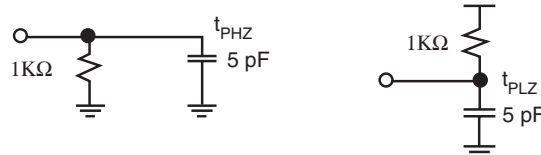

Figure 2: Loads used for t_{PXZ}
a. The loads presented in **Figure 2** are used for t_{PXZ} :